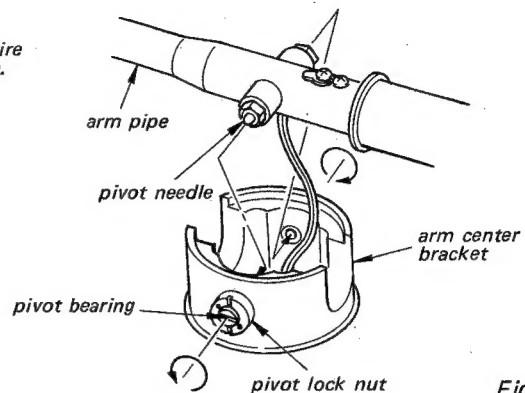

Fig. 5
2) Install the pivot needle as shown in Fig. 5.